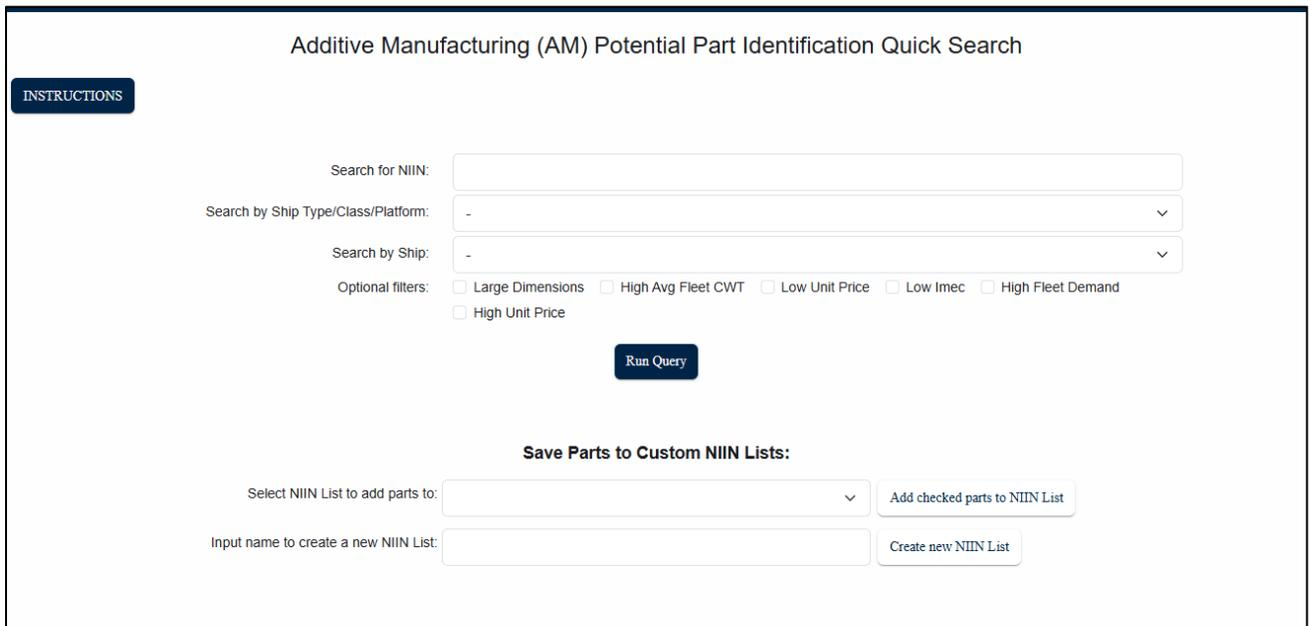

Figure 3.2
- B. Clicking 'Part ID Tool' will bring you to the AM Part ID Data Search (see **Figure 3.2**).